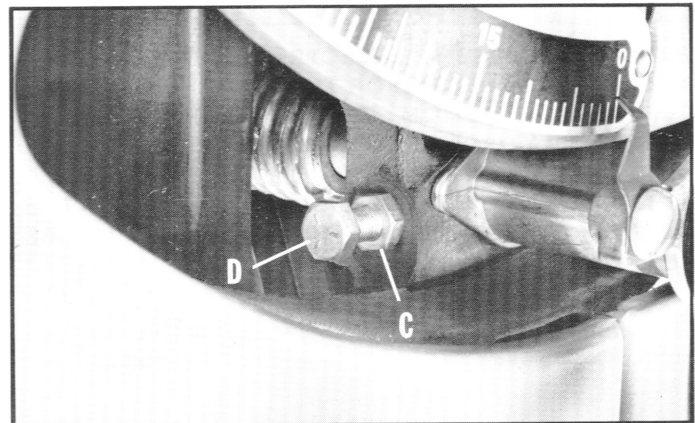

Fig. 24
4. Tilt the saw to 45 degrees and check with a combination square. If an adjustment is necessary, loosen locknut (C) and adjust screw (D) Fig. 24.